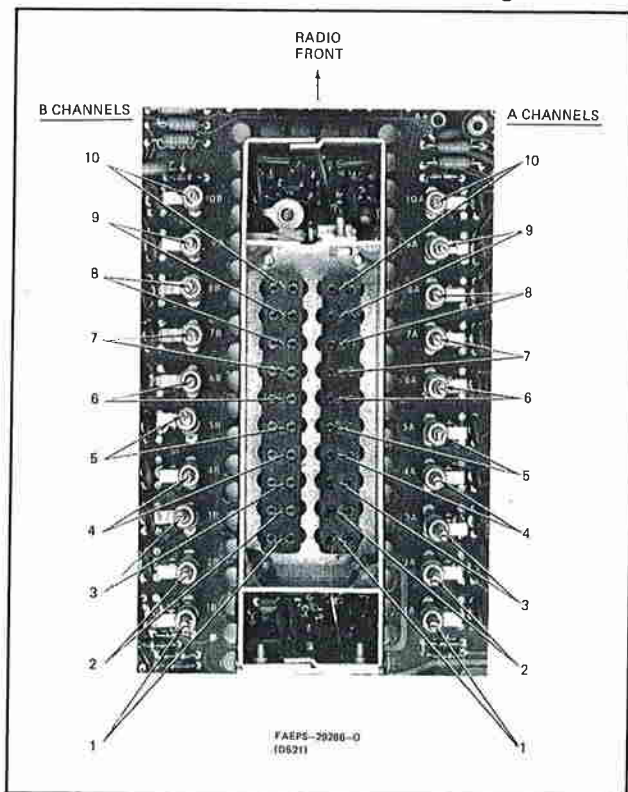

Figure 4. Local Oscillator Crystals and Trimmer Capacitor Locations
Step 4. Using the insulated tuning tool adjust the frequency trimmer capacitor corresponding to the channel selected for a reading on the frequency counter equal to the assigned carrier frequency \pm 5 Hz. See Figure 4 for location of the trimmer capacitors.
Step 7. Using the insulated tuning tool adjust the duplex frequency trim capacitor ("B" side of oven) corresponding to the channel selected for the assigned transmit carrier frequency \pm 5 Hz (see Figure 4).